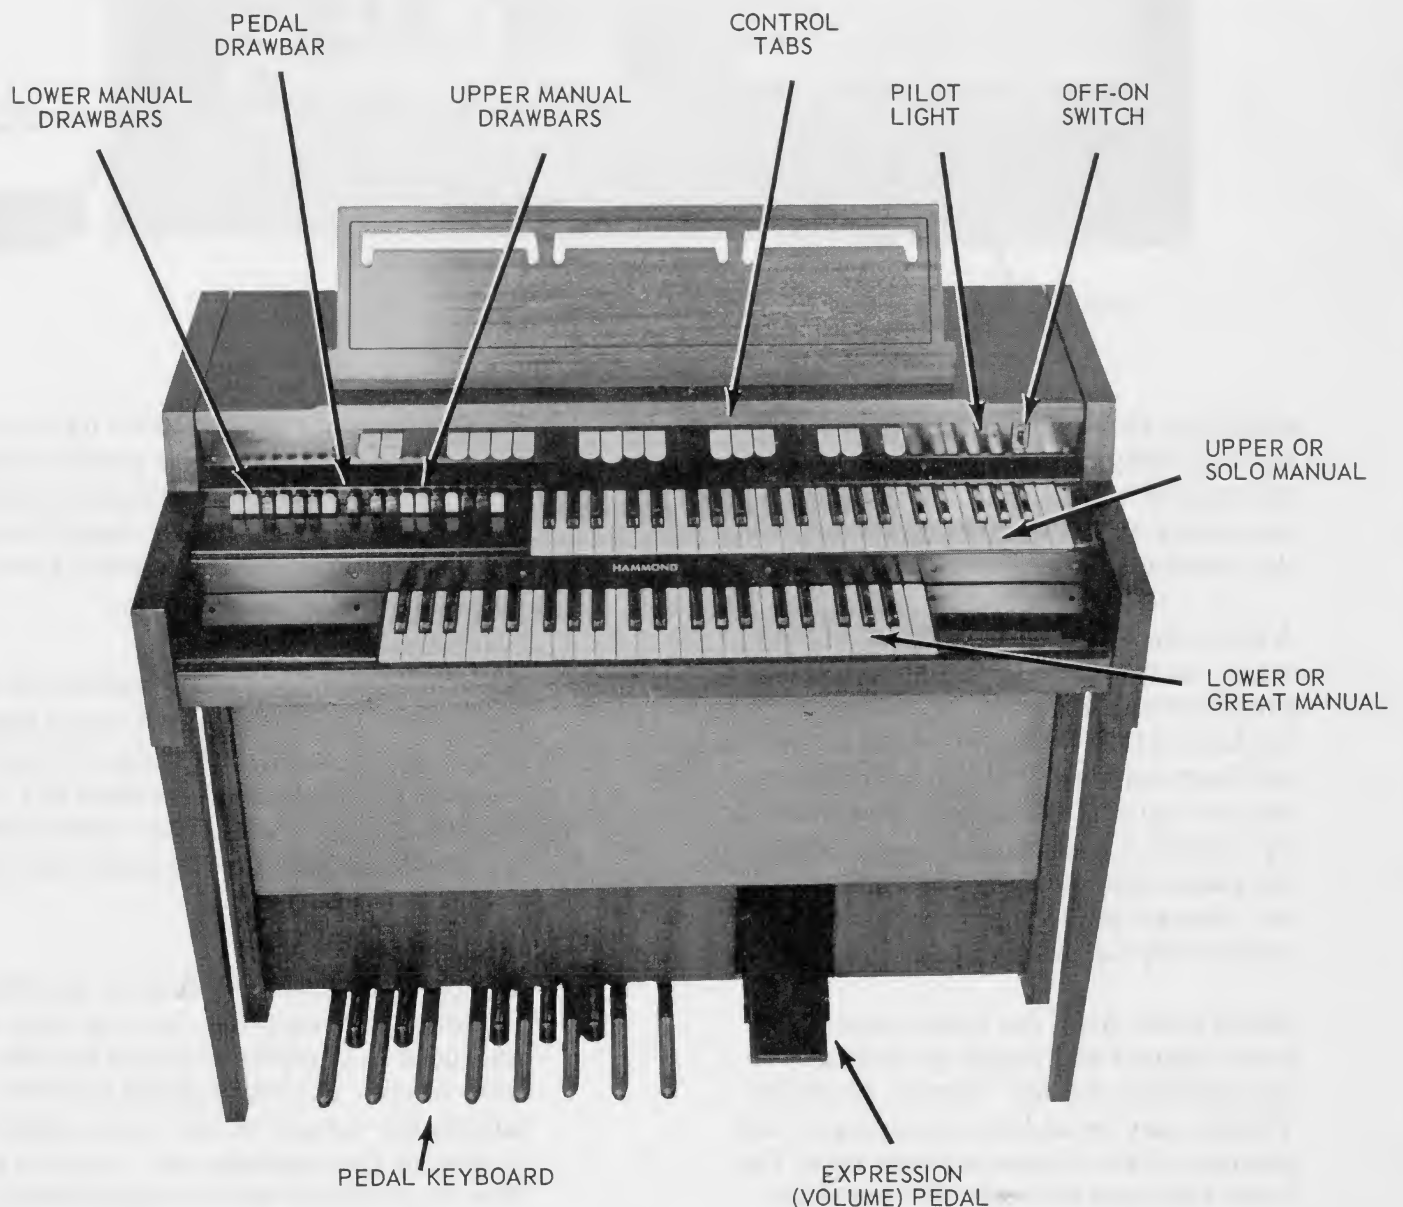

Figure 1-1. L-100 Console, Front View
- 1-1. **GENERAL** – This section contains a description of the operating principles of L-100 Series organs. Figures 1-1 and 1-2 depict the locations of the various subassemblies. Figure 1-3 is a block diagram.
A toggle switch (Figure 1-1) controls power to the organ.
1-9. EXPRESSION PEDAL. – The expression pedal, sometimes called “swell” pedal (Figure 1-1) is operated by the player’s right foot and varies the volume of both manuals and pedals together. When the pedal is tilted back (closed) by pushing on the player’s heel the music is softest, and when pushed forward (opened) by the player’s toe the music is loudest.